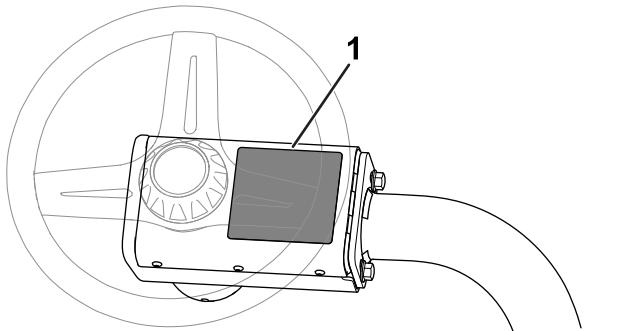

Figure 12
- **CE warning decal:** Apply the CE warning decal (Part No. 139-8321) over the existing warning decal (Part No. 139-8320) on the steering-wheel cover; refer to Figure 12.